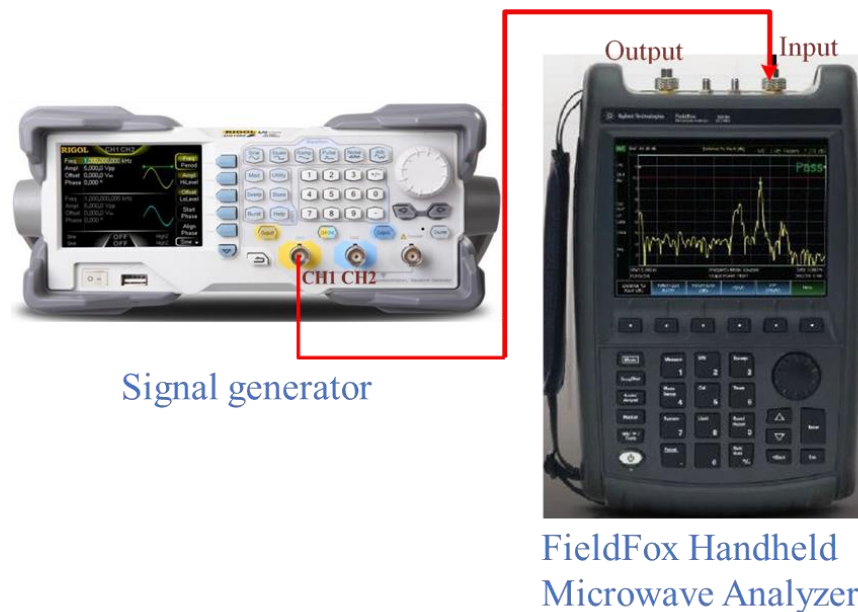

Figure 1: Experimental setup – measurement of the power spectrum
Using the experimental setup shown in Fig.1, connect the output port of the Signal Generator to RF signal **input** port of FieldFox Handheld Microwave Analyzer by a microwave coax cable. The one side of the microwave coax cable is equipped with SMA to BNC adapter so as to connect to the Signal Generator output port, the other side of the microwave coax cable is equipped with SMA to N-type adapter so as to connect to the RF signal input port of FieldFox Handheld Microwave Analyzer.
8. It should be noted that the FieldFox Handheld Microwave Analyzer has two RF signal ports, namely RF signal input port and RF signal output port, as shown in Fig.1 Because the purpose of this experiment is to observe the spectrum characteristics of the typical signals, so the output port of the Signal Generator should connect to the RF signal **input** port of FieldFox Handheld Microwave Analyzer .